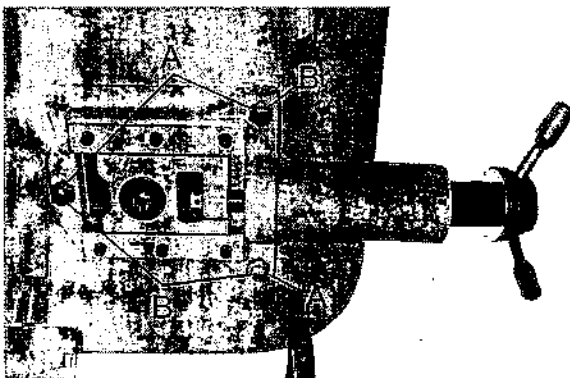

Fig. 8
4. Loosen the three bolts (A - Fig. 8) located on the top of the tacking nuts.
5. Tracking adjustment is accomplished by either loosening or tightening three adjusting nuts (B - Fig. 8).
7. Tighten locking bolts (A - Fig. 8) once proper tracking is completed.